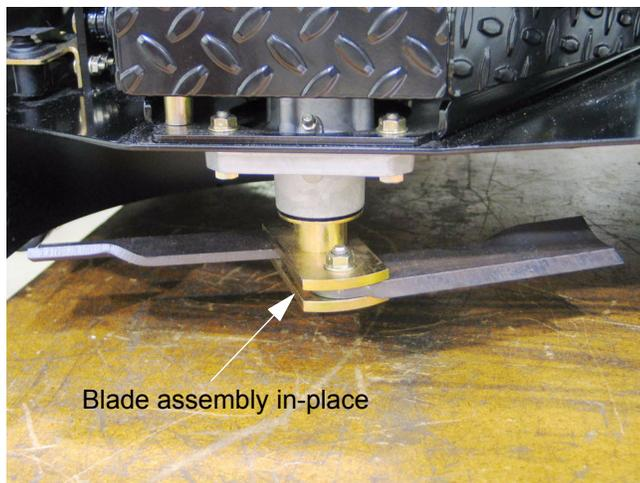

Figure 2.4
2.4. With the wings raised the outer blades are easily accessible for service. The center blade is as accessible as it would be on a conventional deck. Lift and safely support the mower to reach the center blade. See Figure 2.4.